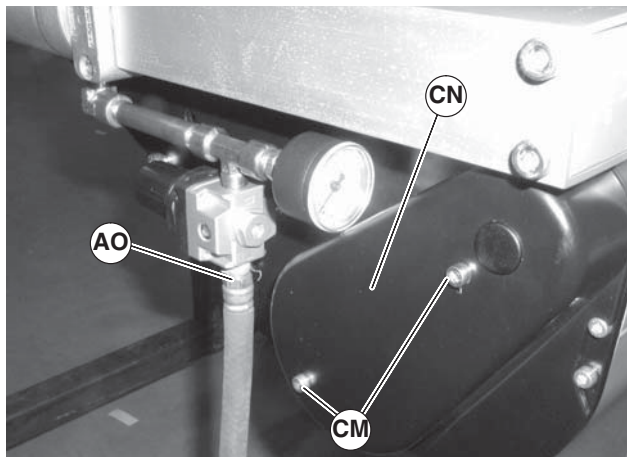

Figure 91
1. Remove air supply (Figure 91, item AO) from center drive module.
2. Remove screws (Figure 91, item CM) and cover (CN).
8. Reinstall cover (Figure 91, item CN). Tighten screws (CM) to 69 in-lbs (8 N-m).